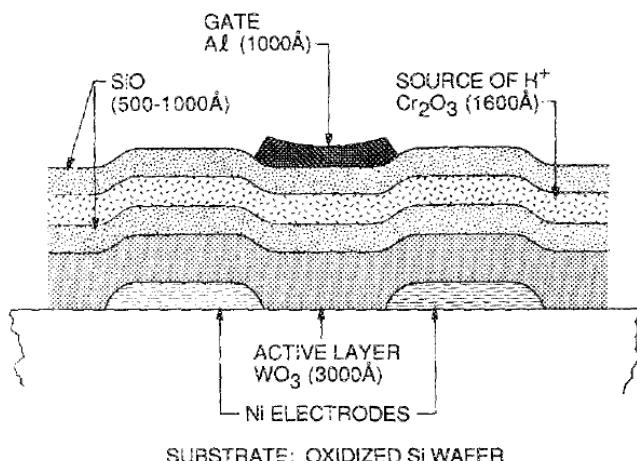

FIG. 1. Schematic cross section of a three-terminal WO₃ memistor device.
Figure 1 | Emulating an axon. Top: schematic diagram of a neuron. Bottom: spike generation and propagation along a chain of neuristors (N), mimicking the action potential propagating along an axon.